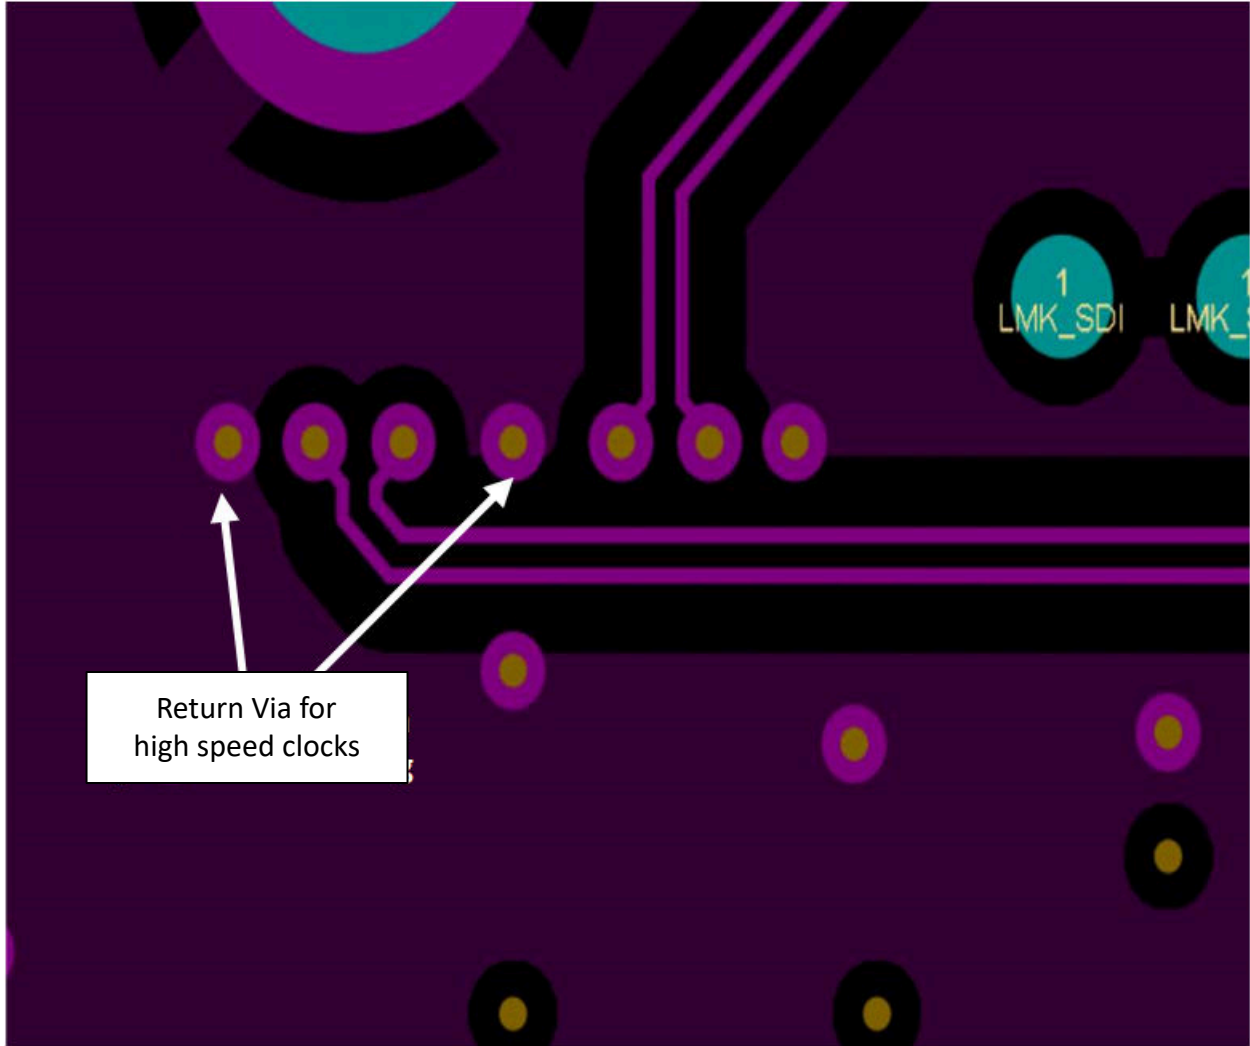
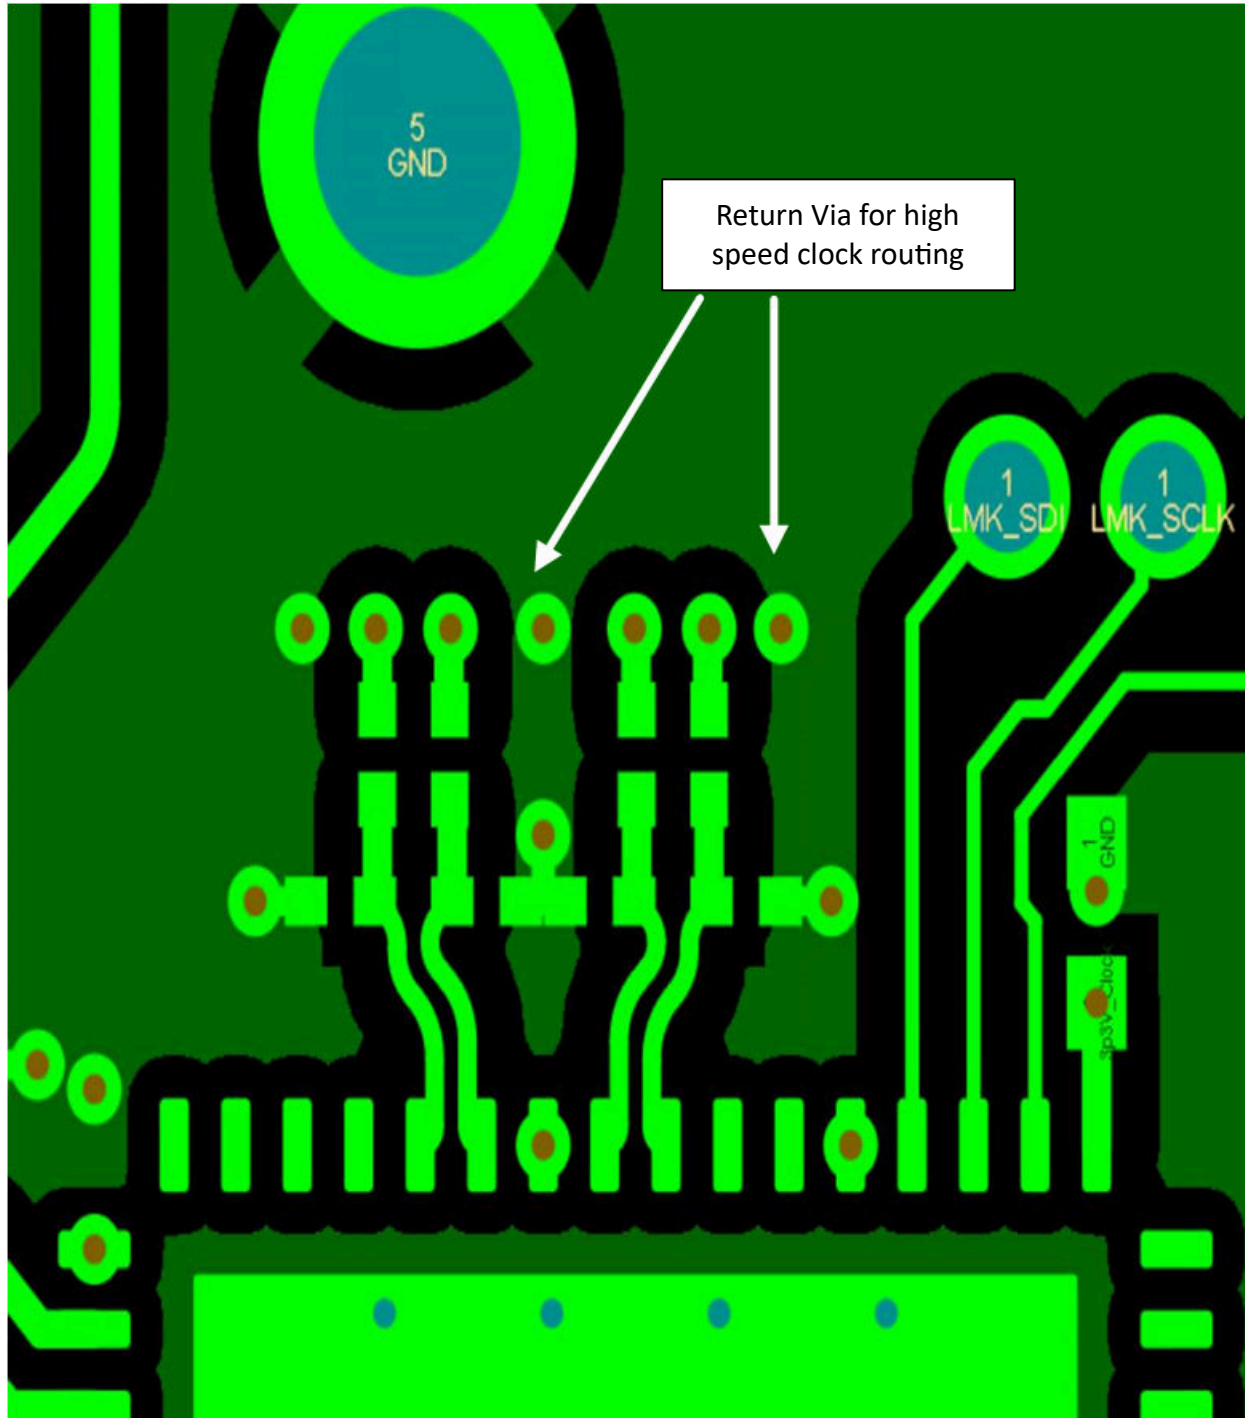

Figure 8-27. Return Vias for High Speed Clock
Figure 8-28. Return Vias for High Speed Clock Near Clock Generator
8. When high-speed signals must transition to another layer using vias, transition as far through the board as possible (top to bottom is best case) to minimize via stubs on top or bottom of the vias. If layer selection is not flexible, use back-drilled or buried, blind vias to eliminate stubs. Always place two ground vias (“return vias”) close to critical high-speed signal trace via when transitioning between layers to provide a nearby ground return path. See Figure 8-27 and Figure 8-28 as examples.